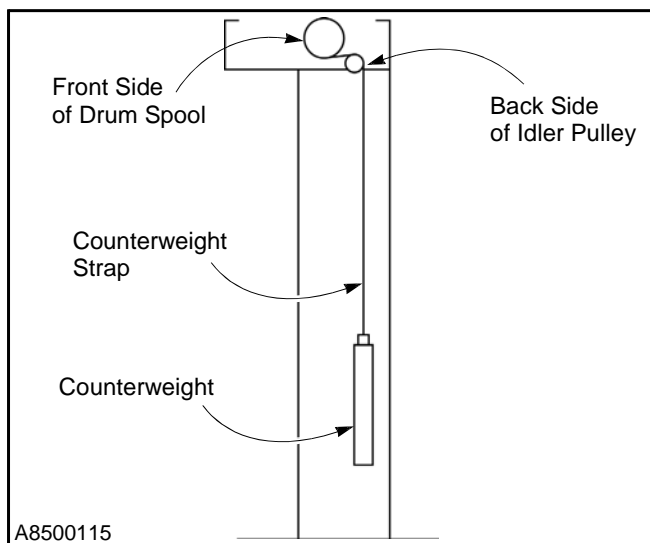

Figure 50
11. Wrap the strap around the spool three times. The strap must hang off the front of the spool. (See Figure 50)